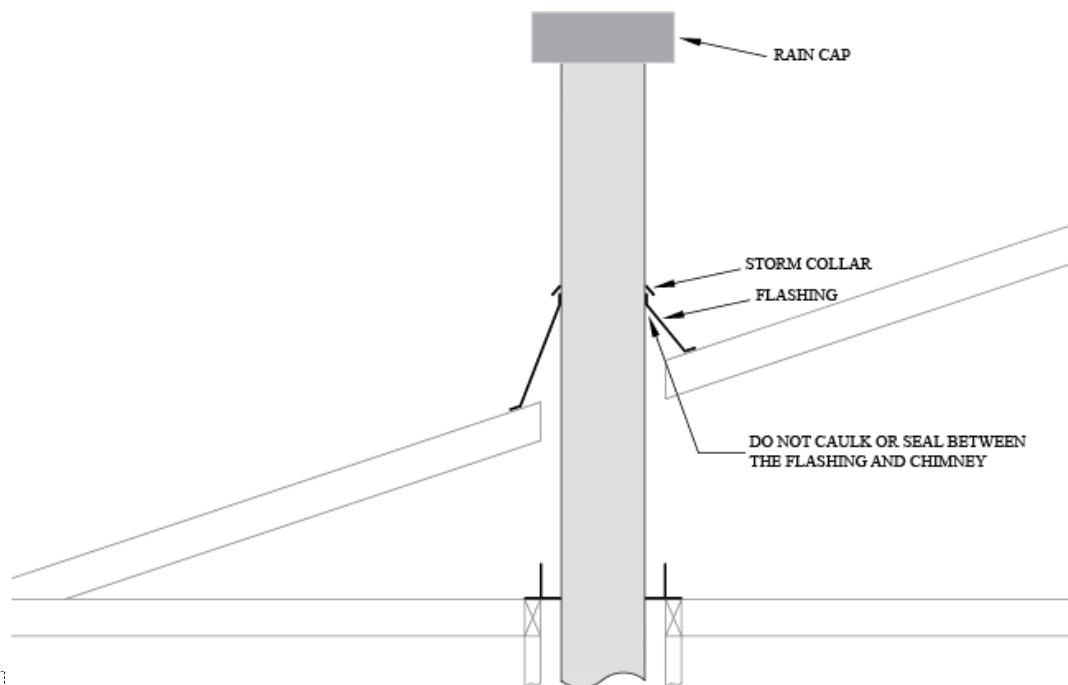

Figure 15a
2. Cut and frame required holes in floor, ceiling, and roof where chimney will pass through. See Fig. 15a on the next page.